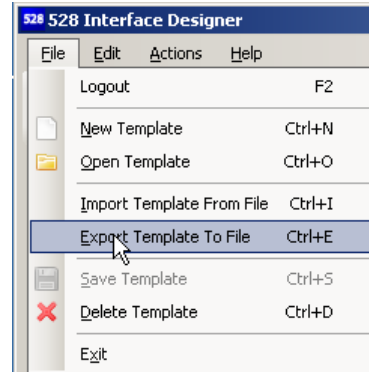

Figure 6-6: Export Template Menu
2. Click on the **File** menu and select **Export Template To File** as shown in Figure 6-6.